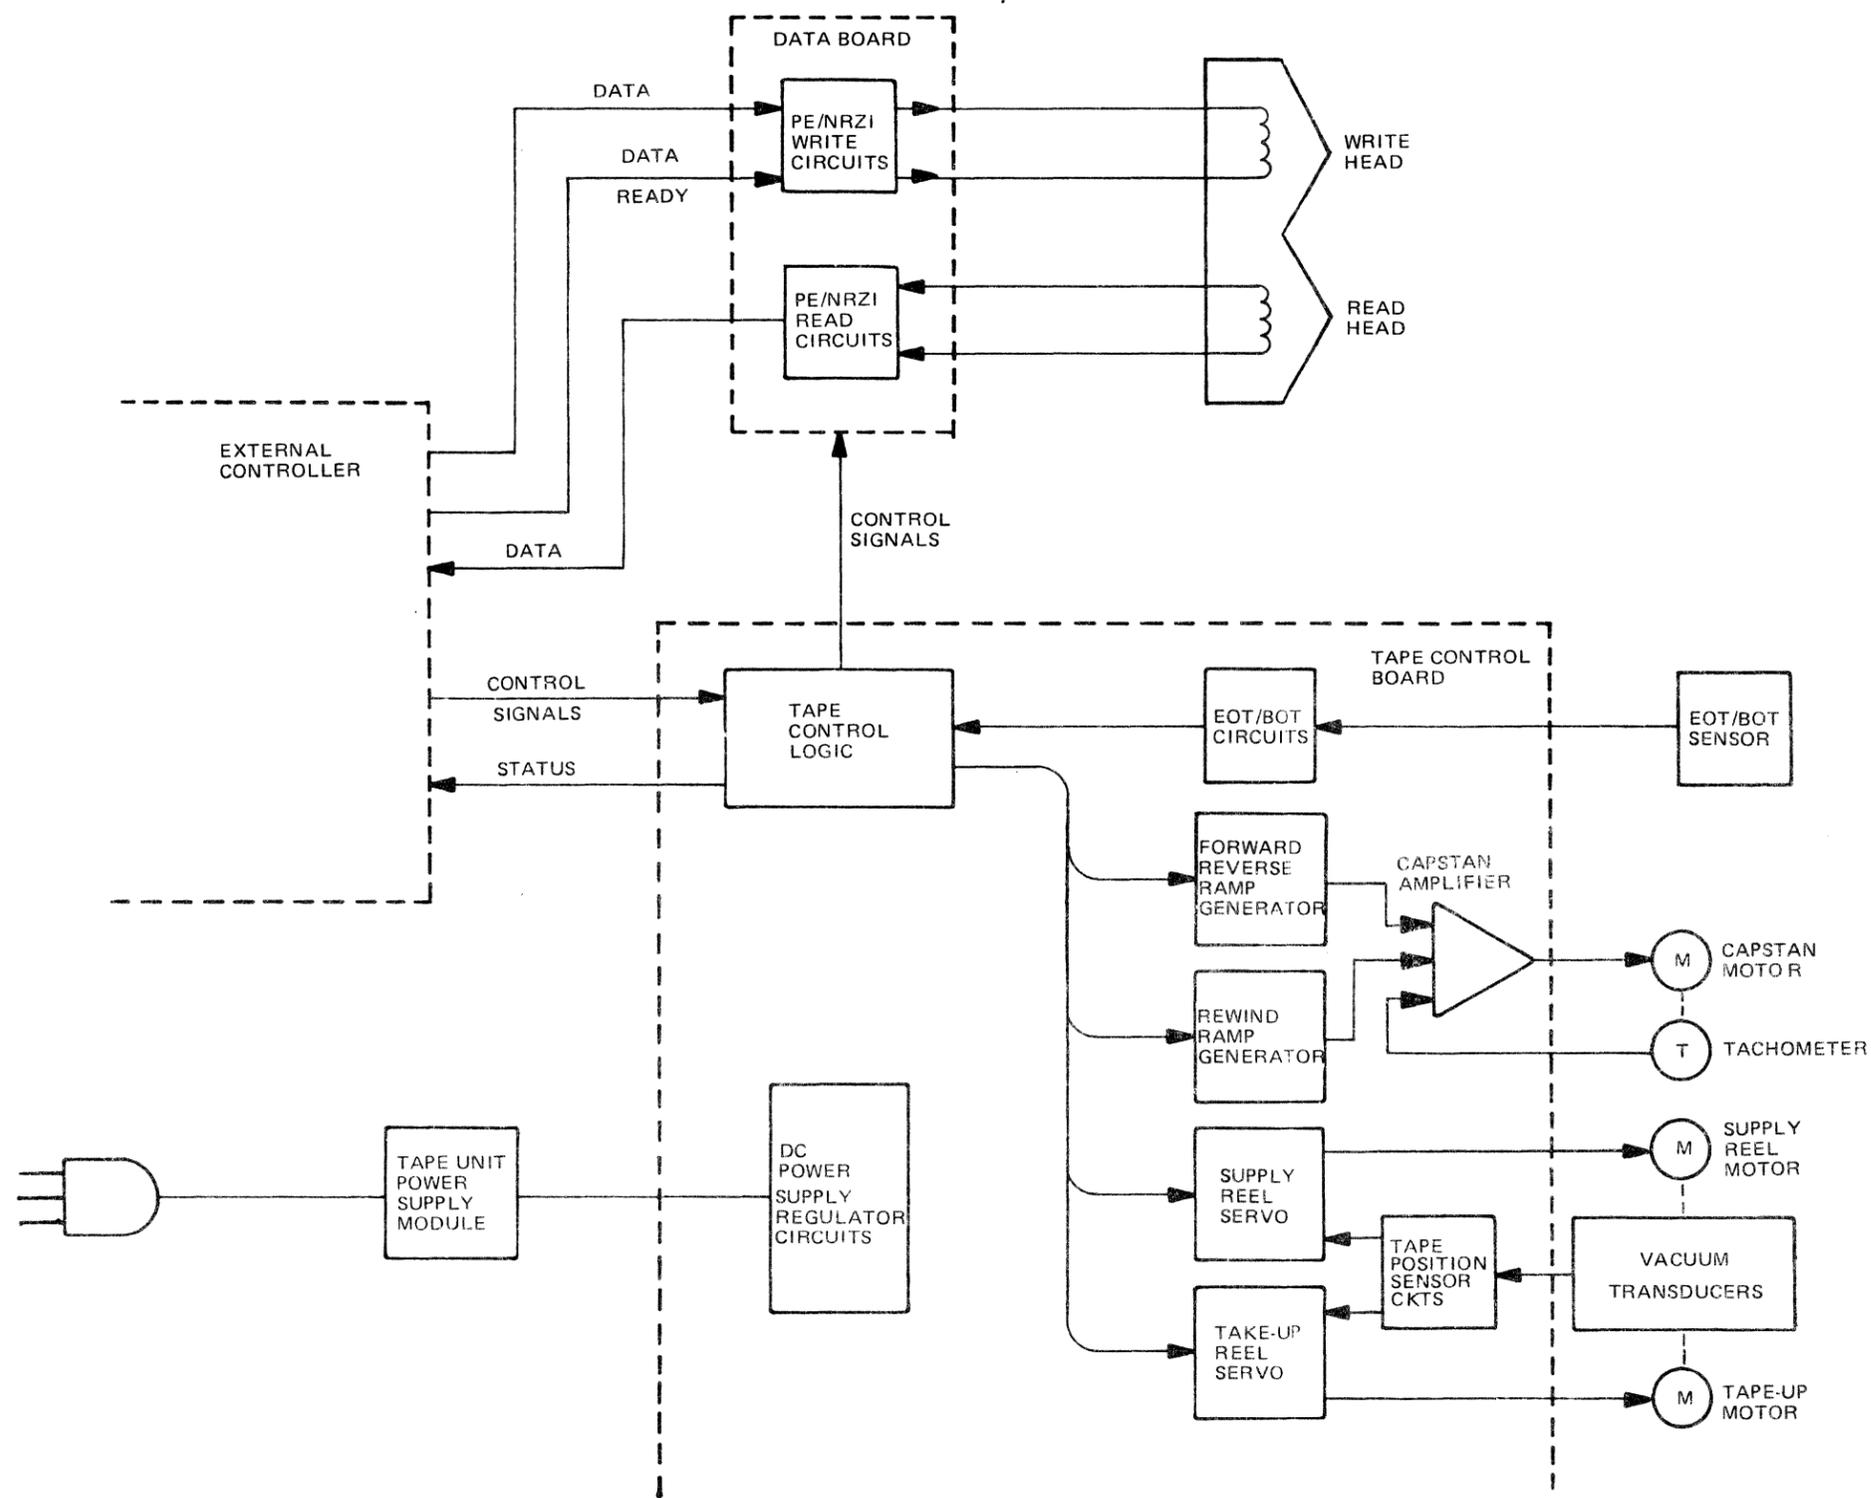

Figure 4-1. Magnetic Tape Unit Functional Block Diagram
The Model 2750 Magnetic Tape Unit provides a read and write data operation using either the NRZI or Phase Encoded (PE) methods. The tape unit is designed specifically for remote control of the read/write operation and of tape motion. The Model 2750 Tape Unit uses dual vacuum columns for the tensioning of tape. The following paragraphs provide a functional description of the Model 2750 series Magnetic Tape Unit. Figure 4-1 shows a functional block diagram of the tape units.